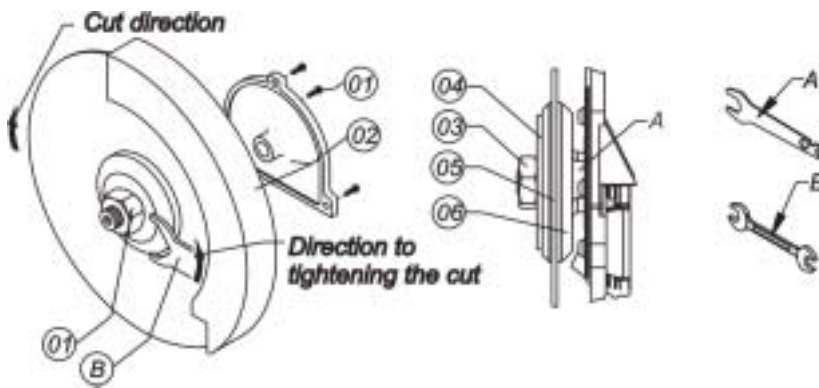

Figure 06
- 1) Remove the three bolts from the yellow plastic flange, figure 06 (01);
- 3) Insert wrench 1 in the region A as shown in figure 06 (06);
- 4) Then Using wrench B turn the blade nut clockwise, loosen the nut, as shown figure 06 (03);
- 7) Remove the nut figure 06 (03);
- 8) Take the flange off figure 06 (04);
- 9) You are finally ready to remove the blade, figure 06 (05);
- 3) Nut, figure 06 (04) manually tight to the end;
- 4) Insert wrench A in the region A, figure 06 (06);
- 5) Then using wrench B turn the blades nut counter clockwise, figure 06 (03);
- 7) Fit the acrylic blade guard item 02, around the blade and right after that fix the yellow plastic flange with three screws by a Phillips key;